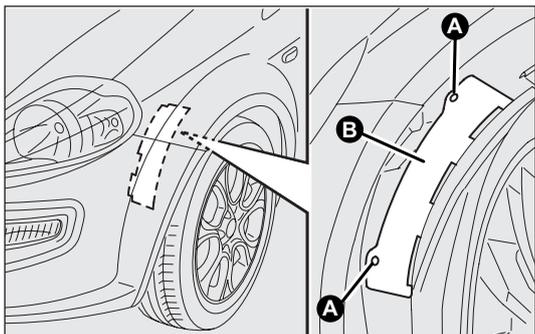

fig. 163
### Front fig. 163
- turn the catch A-fig. 163, then lift off the access lid B;
- close the lid B-fig.163 then tighten the catch A.